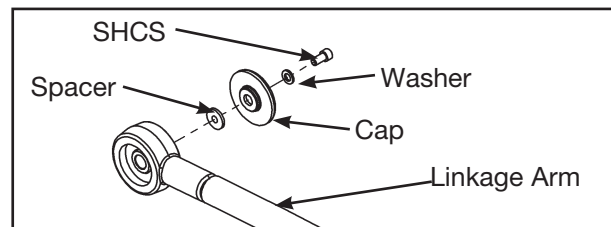
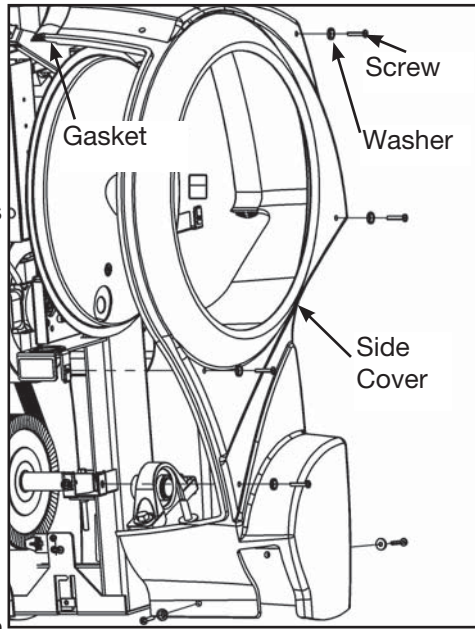

Figure 3
Figure 4
- A. Using a 3/16" Allen wrench, remove the SHCS, washer, cap and spacer securing the linkage arm. See Figure 3. **NOTE:** Figure 3 shows the contents of the linkage cap kit that will be installed in step 19A.
- A.** Remove the six screws and six washers securing each side cover in place. See Figure 4.
- B. Using a Phillips head screwdriver, tighten the six screws and six washers securing each side cover. See Figure 4.
- B. Place a drop of loctite (F) to threads on SHCS and into the shaft where the SHCS will be tightened into.
- C. Using a 3/16" Allen wrench, reinstall the SHCS, washer, cap and spacer (removed in step 5A). See Figure 3